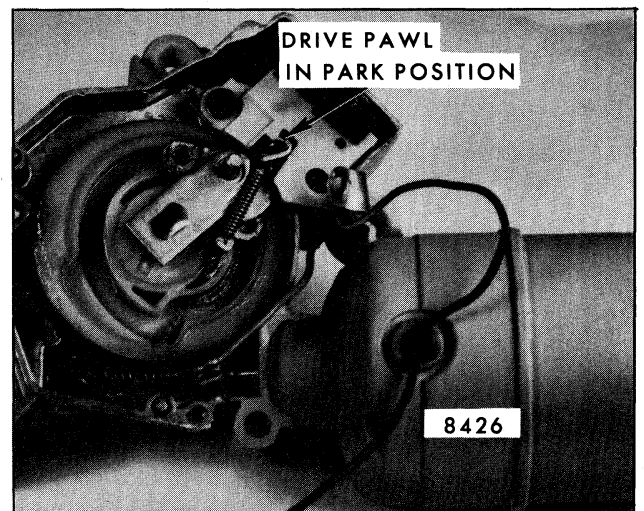

Fig. 2-59-Drive Pawl in "Park"
1. It causes the gear assembly drive pawl to push the relay latch arm into the relay housing (Fig. 2-59), which in turn opens the relay switch contacts. This opens the B plus circuit to the pulse relay coil. The pulse relay contacts then open which shuts off the B plus feed to the motor.